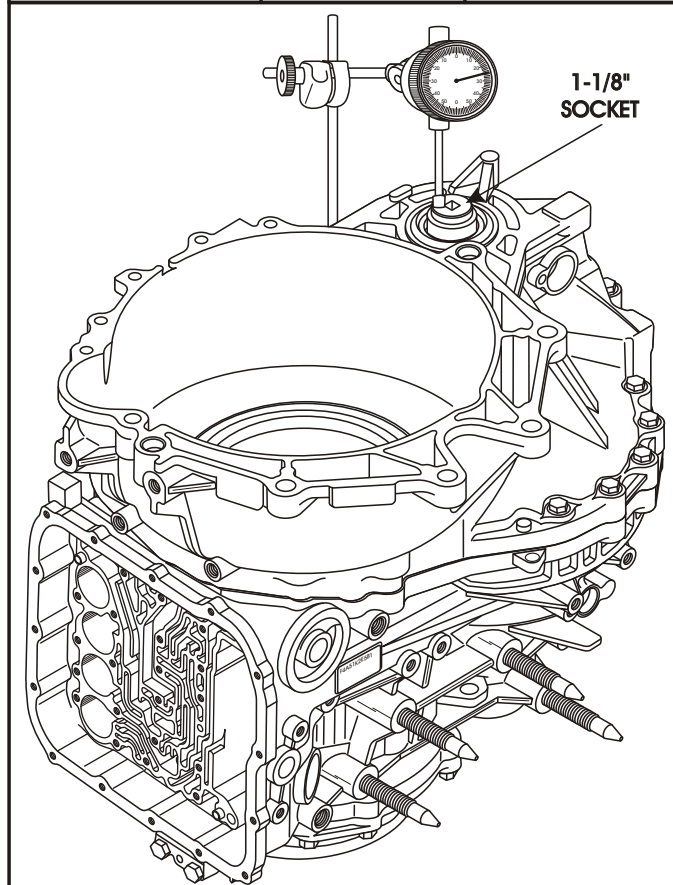

Figure 196
85. Install 1-1/8", 1/2" drive socket through the axle seal, as shown in Figure 196.
86. Install a dial indicator with the stem resting on the socket, as shown in Figure 196, and zero the dial indicator.
88. Choose a spacer from the chart in Figure 196 that is approximately .002" thicker than your end play reading.